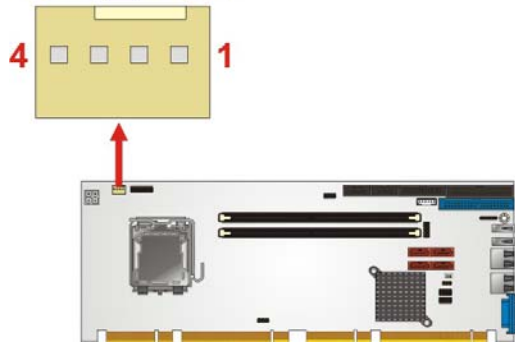

Figure 3-4: CPU Fan Connector Location
- CN Location:** See **Figure 3-4**